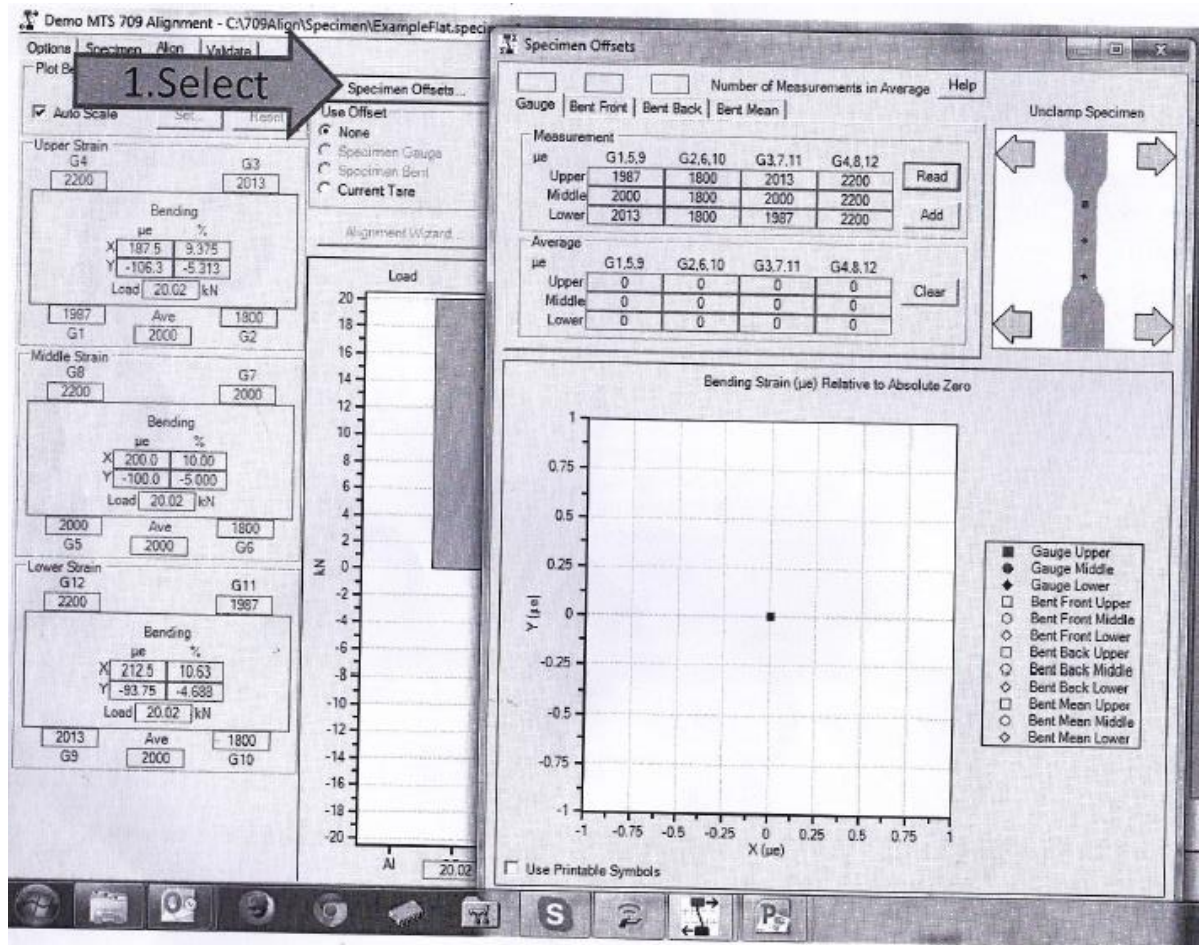

Figure 4: Gauge Tab Procedure
- f) In the Align tab, Select Specimen Offsets... button. Click on Gauge tab as shown in Figure 4. The alignment specimen should not be installed yet.